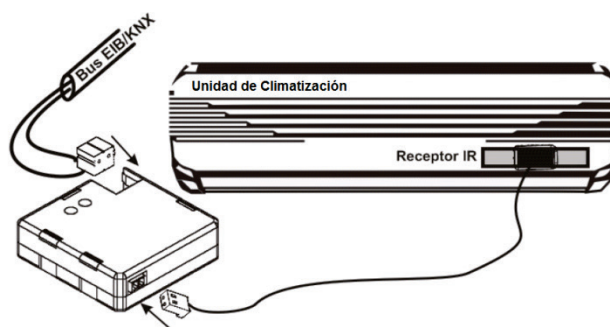

Figure 3. IRSC - A/C unit interface
- **Air connector base (6):** slot for the insertion of the aerial connector, through which the IR commands are outputted from IRSC.
Figure 3 shows how to locate the IR emitter (5) in front of the climate system.